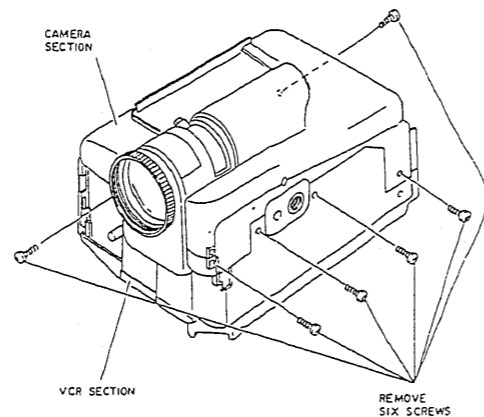

Fig. 3-4
- (7) Remove six (6) screws holding the camera section and VCR section. (See Fig. 3-4)